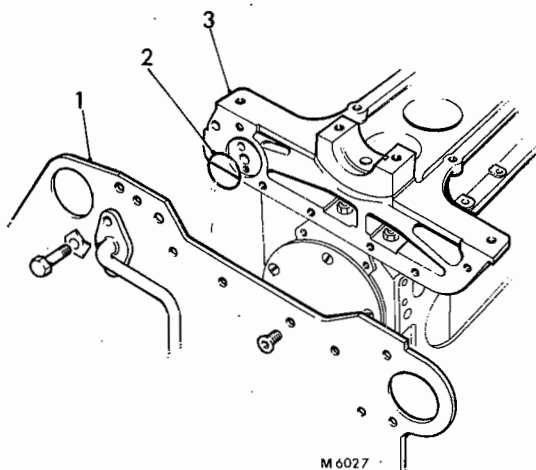

FIG. 4 LOCATION OF O-RING IN TAPPER BLOCK
**Note:** Check that O-ring is correctly seated in tappet block recess before any further assembly, see Fig. 4.